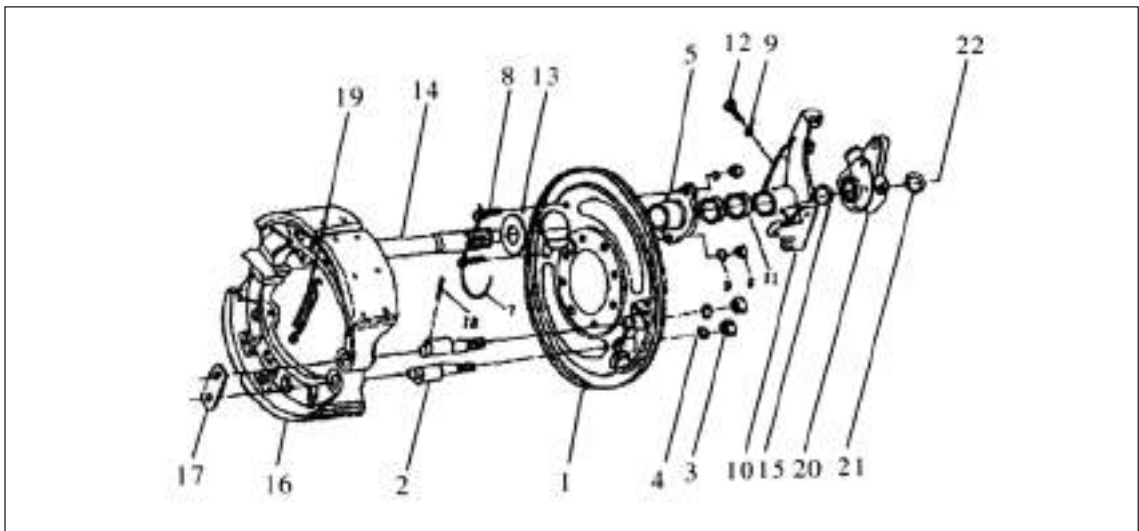

Fig.9-11 Rear wheel brake disassembling and assembling diagram
Fig.9-11 is disassembling/assembling diagram for rear wheel brake. For maintenance, first remove rear wheel and hub assembly, and then brake drum assembly, to expose wheel brake.
- (1) Entire adjustment: as shown in Fig.9-11. This adjustment includes adjustment of brake cam and shoe shaft positions. Final purpose is to adjust brake clearance.
- ① Loosen nut 3 fixing shoe shaft so that this shaft can rotate. Rotation of shoe shaft changes position of brake shoe lower support, and hence changes lower clearance between friction disc and brake drum.
- ② Loosen clamp nut 8 of clamp bolt 6 of camshaft bearing seat 5, so that axial line position of camshaft can be adjusted and position of cam can be changed, thus changing position of friction disc upper support and clearance between friction disc and brake drum lower end.
- ③ Rotate shoe shaft so that shoe shaft end position marks are near to each other.
- ④ Remove dust hood at worm shaft end of adjusting arm. Press down lock sleeve and rotate worm shaft so that brake friction disc is pressed toward brake drum. Use feeler gauge for close mating of upper and lower end of friction discs at both sides with brake drum from the brake clearance inspection hole